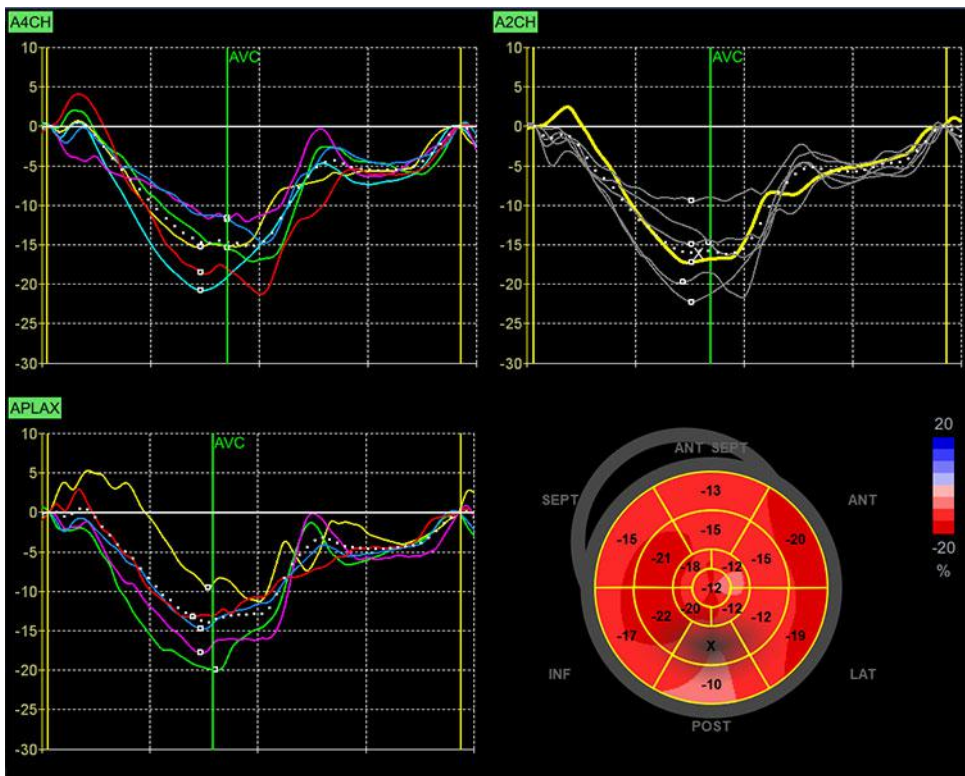

Figure 8-20. Bull's Eye and Traces screen
1. Press **BE+Traces**. The *Bull's Eye and Traces* screen is displayed (see Figure 8-20)
- *BE+Traces*. In addition to the Bull's eye, also displays the strain traces for all three views. In this view, it is possible to correct trace peaks by clicking and dragging peak markers or clicking the corresponding segment in the Bull's eye (Figure 8-20).